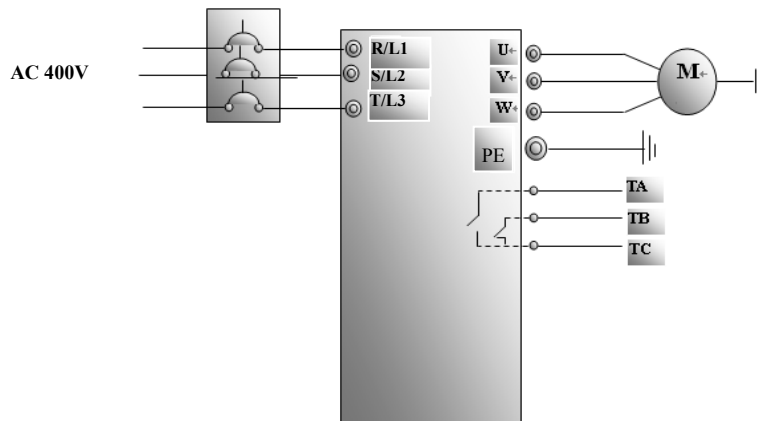

Figure 4-1 Wiring Diagram 1
- (1) Connect the wires in accordance with Figure 4-1. After having checked the wiring successfully, switch on the air switch, and power on the inverter.
- (1) Connect the wires in accordance with Figure 4-1. After having checked the wiring successfully, switch on the air switch, and power on the inverter;
- (2) Press the "Fun" key, to enter the programming menu.
- (3) Study the parameters of the motor: the operation process is the same as that of example 1.
- (4) Set functional parameters of the inverter:
- (5) Press and hold the “Run” key until the motor is accelerated to the jogging frequency, and maintain the status of jogging operation.